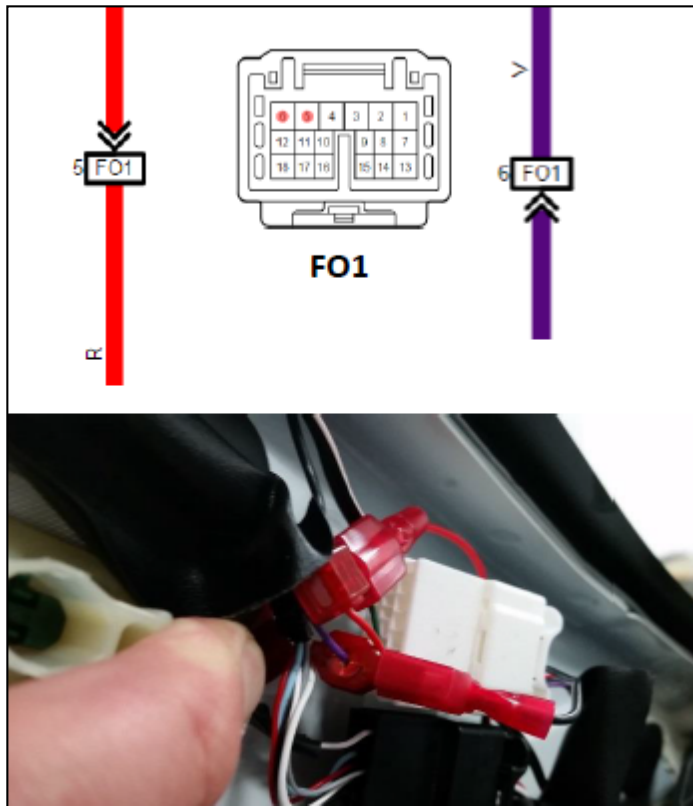

Figure 30
29. Using a Red T-Tap, connect the Red wire from the puddle light power harness to the Red wire in Pin 5 of the white FO1 connector found in the A-pillar. See figure 30.
30. Using a Red T-Tap connect the Black wire from the puddle light harness to the Violet wire in Pin 6 of the FO1 connector. See Figure 30.